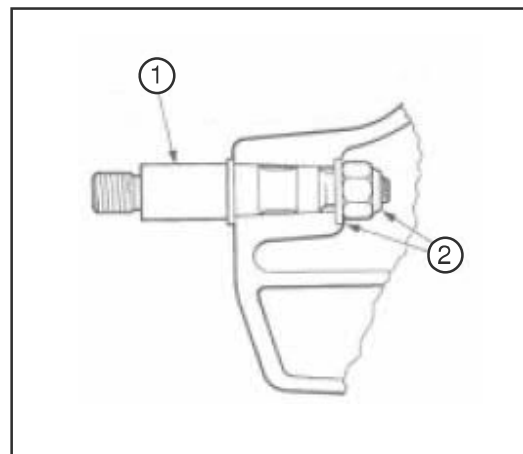

Fig. 12
2. Remove the nut and washer (Item 2 in Fig.12).
3. Remove the pin. (Item 1 in Fig. 12).
2. Refit the washer and nut. (Item 2 in Fig.12).